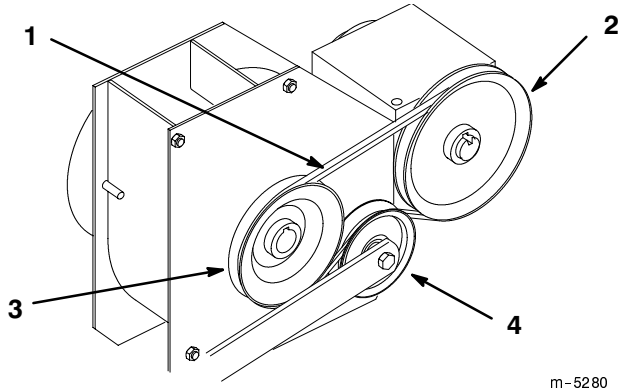

Figure 88
2. Push up on the spring loaded idler arm behind left hand traction tire to relax pressure on blower belt (Fig. 88). Lock into frame slot.
4. Install new blower belt around PTO gearbox and blower pulleys. Then release spring loaded idler arm and place belt above idler pulley (Fig. 88).
5. Check that belt aligns with PTO gearbox, blower and idler pulleys (Fig. 88).